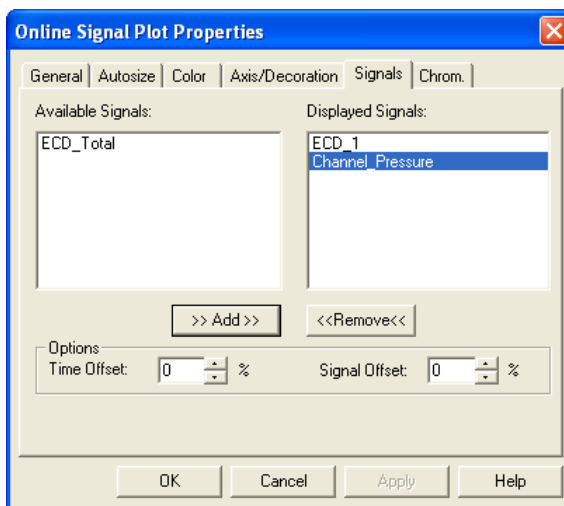

Figure 99. Online Signal Plot Properties
- c. Under **Available Signals**, select **Channel_Pressure** and click **Add >>** to move the signal to the **Displayed Signals** list (see Figure 99). Click **OK**.